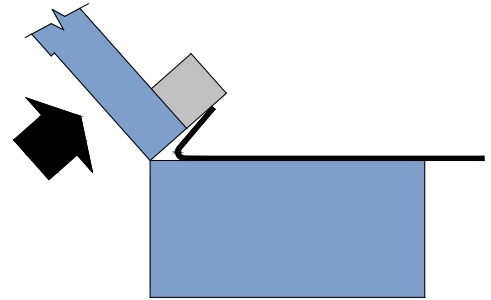

figure 12
- 2) Now remove the clamping bar, bring up the bending leaf, and continue the fold as in (fig. 12). (No clamping is required.)